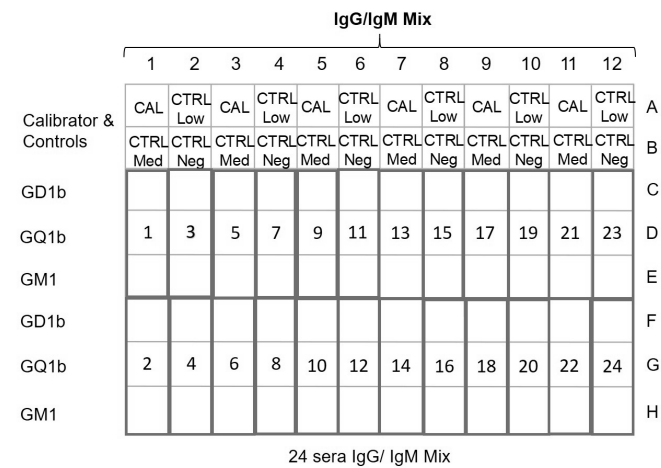
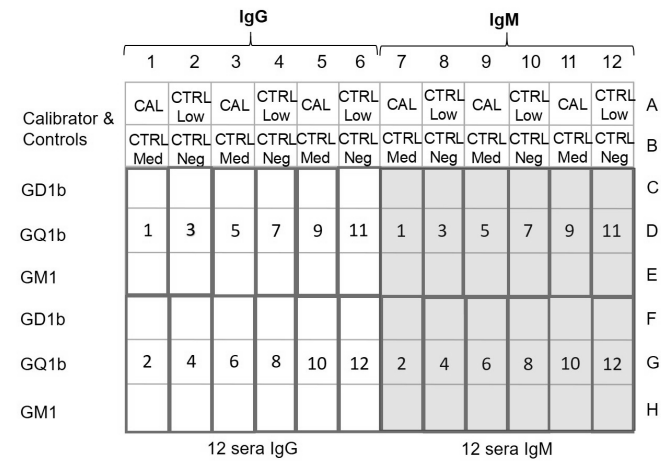

Figure 1A: ≤ 24 sera / kit (1 MP / kit)
Figure 1B: 2 profiles / serum, ≤ 12 sera / kit (1 MP/kit)
- 4a. Pipet 100 μL of calibrator into the well A1 (refer to figure 1A for option 1 or figure 1B for option2).)
- 4b. Pipet 100 μL of medium control into well B1, of low control into well A2 and of negative control into well B2 (refer to figure 1A or 1B).
Note for option 1: If more than three strips per run are used, calibrator and controls can be tested in duplicates (see figure 1A).
Note for option 2: Calibrator and controls should be run separately for the IgG and IgM isotypes (see figure 1B).
- 4c. Pipet 100 μL of diluted sample 1 into wells C1-E1 (refer to figure 1A or 1B).
- 4d. Pipet 100 μL of diluted sample 2 into wells F1-H1 (refer to figure 1A or 1B)
- 4e. Pipet 100 μL of diluted samples 3-24 (for option 1) or 3-12 (for option2) into subsequent wells (refer to figure 1A or 1B).
- 7'. Add 100 μL of either enzyme label IgG or IgM to the respective wells (refer to figure 1B).